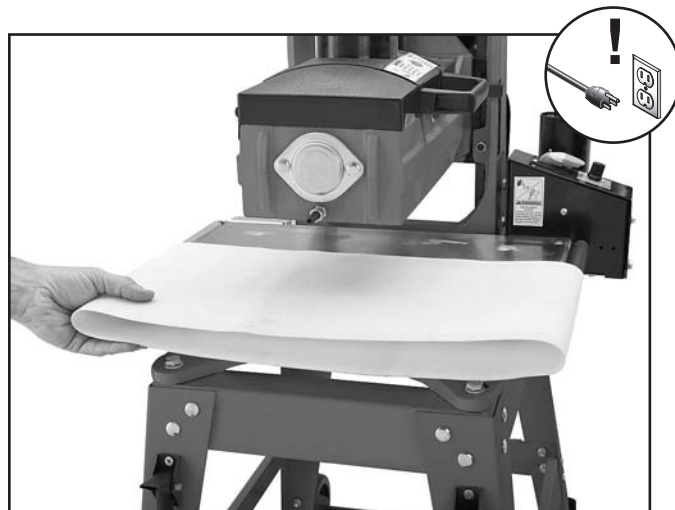

Figure 40. Removing the conveyor belt.
5. Lift the conveyor support up slightly and slip the conveyor belt off, as shown in **Figure 40**.